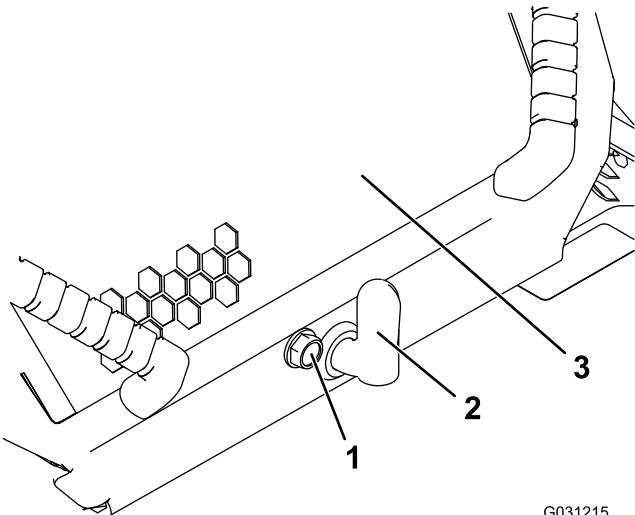

Figure 36
1. Loosen the hood-locking screw (Figure 36)
2. Turn the hood latch clockwise (Figure 36).
3. Lift up on the handles and swing the hood up (Figure 36).
3. Tighten the hood-locking screw to secure the latch (Figure 36).